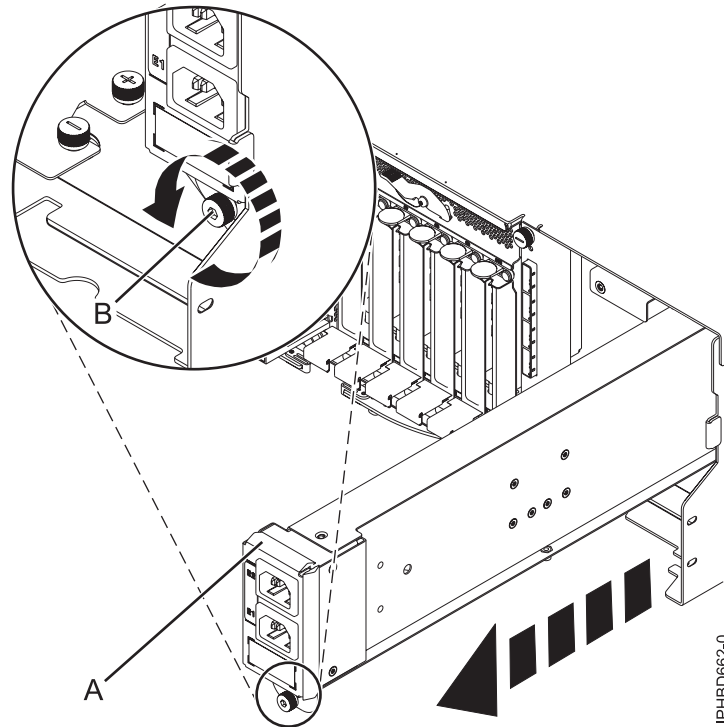

Figure 27. Removing an input power distribution assembly
8. Loosen the thumbscrew **(B)** on the input power distribution assembly. Pull out the assembly from the expansion unit, as shown in Figure 27 on page 27.